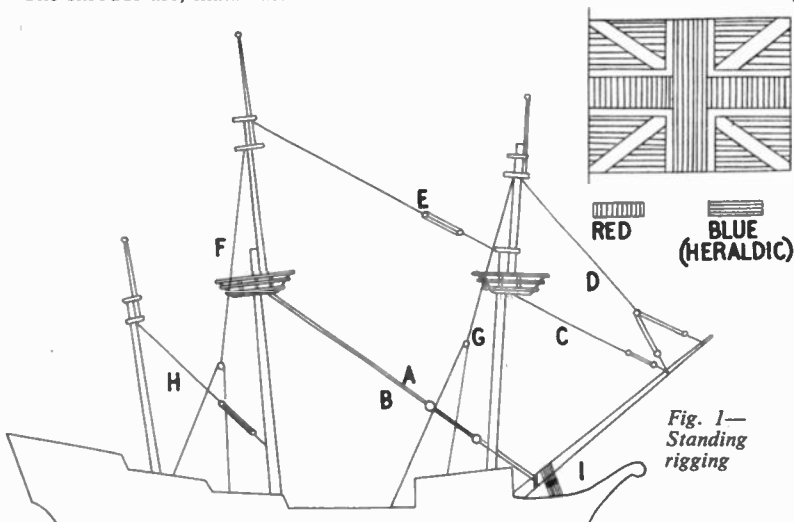

Fig. 1—
Next to be erected is the mainstay. This is double and passing on either side of the foremast (A) and (B) in Fig. 1. All other stays are single lines, (C) forestay, (D) fore topmast stay, (E) mains topmast stay.